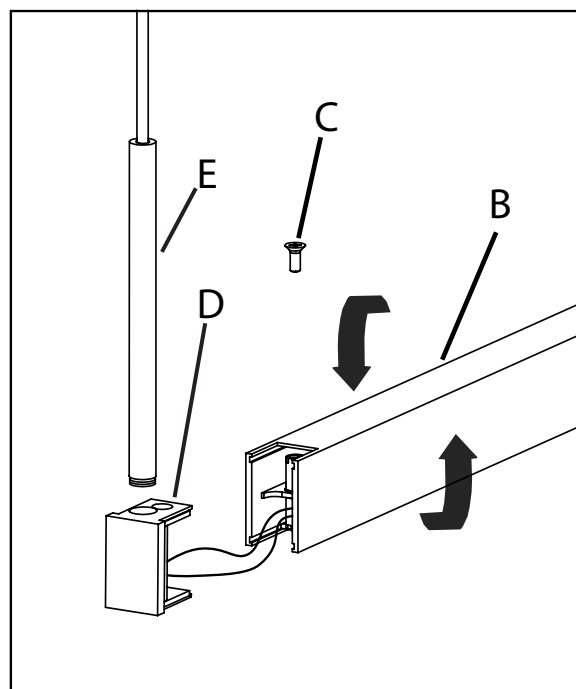

Fig. 1
1. Shut off power to the outlet box (A).
2. **OPTIONAL:** To convert the fixture (B) from downlight to uplight, remove bracket screw (C) on one end, flip the fixture and slide bracket (D) back in and secure with bracket screw. Repeat for the other end (Fig. 1).
3. Screw the stem (E) into the bracket (D). Repeat for the other end (Fig. 1).